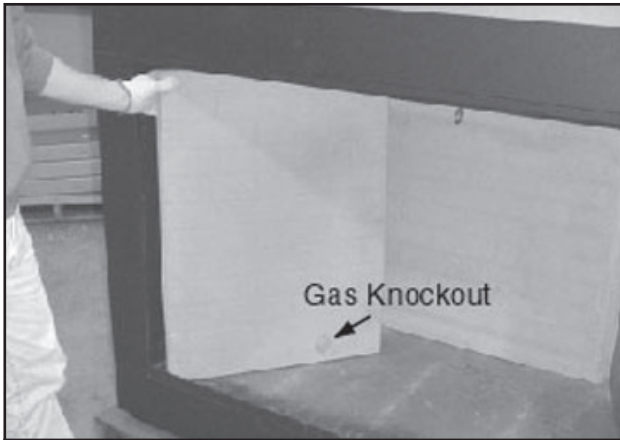

Figure 8.5 Install Side Refractory
- Place side refractory into fireplace. Position towards front of fireplace and slide to the rear. See Figures 8.5 and 8.6. Repeat for the second side refractory.